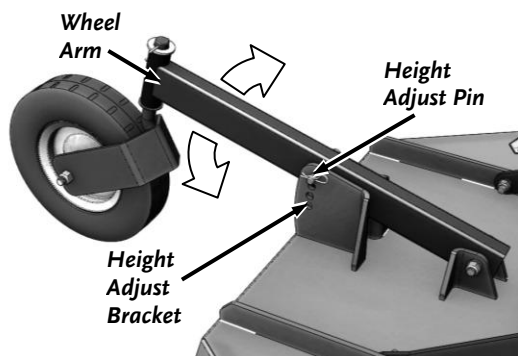

Figure 23
2. Remove the Hair Pin and Height Adjust Pin from the Height Adjust Bracket (**Figure 23**).